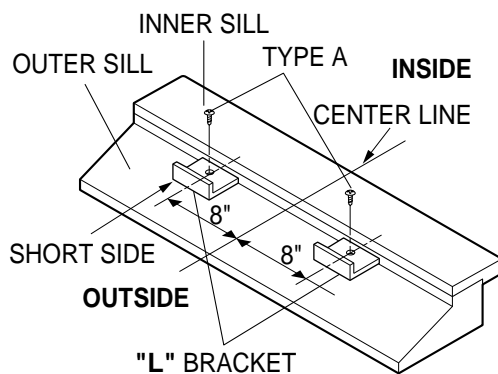

Fig. 9
- b. The bracket helps to hold unit securely in place. Be sure to place bracket edge flush against back of inner sill. See Fig. 9.
- a. Carefully lift the air conditioner and slide it into the open window. Make sure the bottom guide of the air conditioner drops into the notches of the "L" bracket. See Fig. 9.